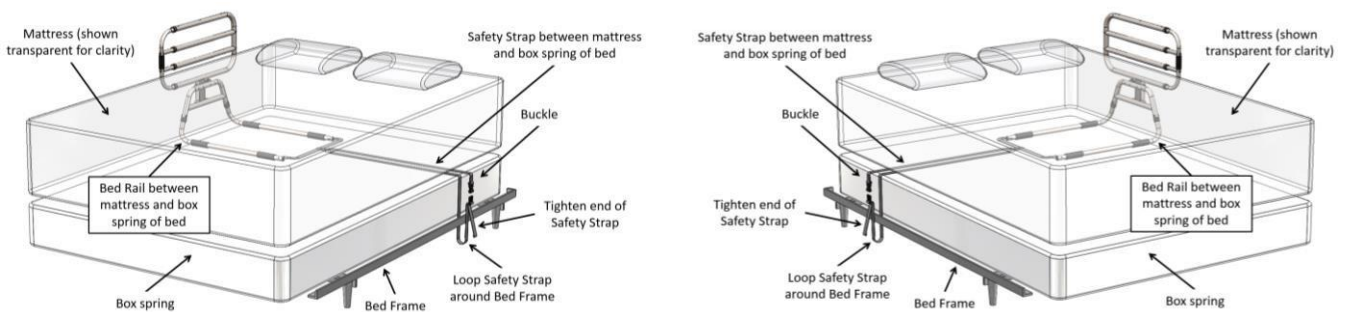

FIGURE 5
5. **IMPORTANT!!!** Secure the SAFETY STRAP to the bed frame, as shown in Figure 5. Unbuckle strap and loop strap around bed frame and re-buckle. Tighten strap to secure Handle Assembly against the side of the mattress as shown in Figures 5 and 6. **DO NOT INSTALL PRODUCT WITHOUT SECURING THE SAFETY STRAP TO THE BED FRAME AS SHOWN IN FIGURES 5 and 6. IF YOU HAVE ANY QUESTIONS CALL STANDER AT (800) 506-9901 or (435) 755-0453. Do not install product unless there is a bed frame to secure the Safety strap to as shown in Figure 5.**